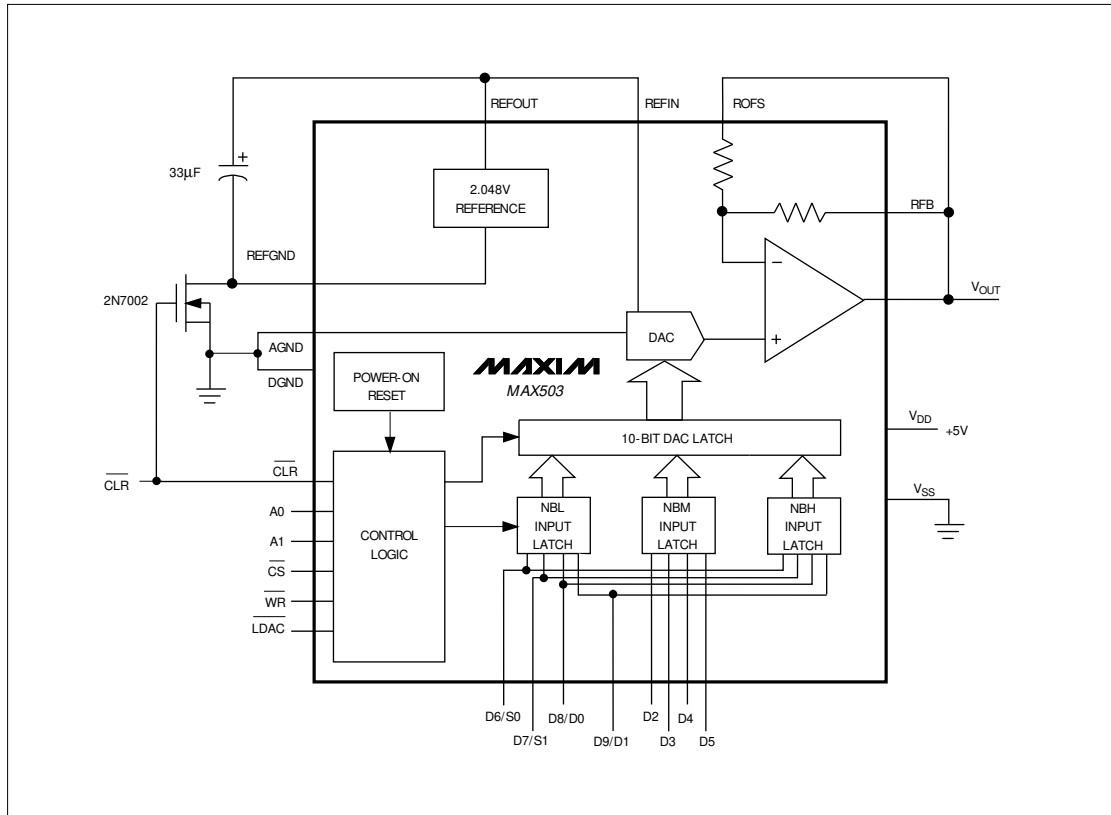

Figure 3. Low-Current Shutdown Mode
An additional 110µA of supply current can be saved when the internal reference is not used by connecting REFVDD to VDD. A low on-resistance N-channel FET, such as the 2N7002, can be used to turn off the internal reference to create a shutdown mode with minimum current drain (Figure 3). When CLR is high, the transistor pulls REFVDD to AGND and the reference and DAC operate normally. When CLR goes low, REFVDD is pulled up to VDD and the reference is shut down. At the same time, CLR resets the DAC register to all 0s, and the op-amp output goes to 0V for unity-gain and G = 2 modes. This reduces the total single-supply operating current from 250µA (400µA max) to typically 40µA in shutdown mode.
In order to provide hardware and software compatibility with the 12-bit MAX530, the MAX503 employs a 12-bit digital interface. As shown in Figure 3, there is actually a 12-bit input latch, and therefore 12 bits of data should be written. The two least significant bits (S1 and S0) are sub-LSB, and must always be 0s. Designed to interface with 4-bit, 8-bit, and 16-bit microprocessors ( $\mu\text{Ps}$ ), the MAX503 uses 8 data pins and double-buffered logic inputs to load data as  $4 + 4 + 4$  or  $8 + 4$ . The 12-bit DAC latch is updated simultaneously through the control signal LDAC. Signals A0, A1, WR, and CS select which input latches to update. The 12-bit data is broken down into nibbles (NB); NBL is the enable signal for the lowest 4 bits (S0, S1, D0, D1), NBM is the enable for the middle 4 bits, and NBH is the enable for the highest and most significant 4 bits. Table 2 lists the address decoding scheme.